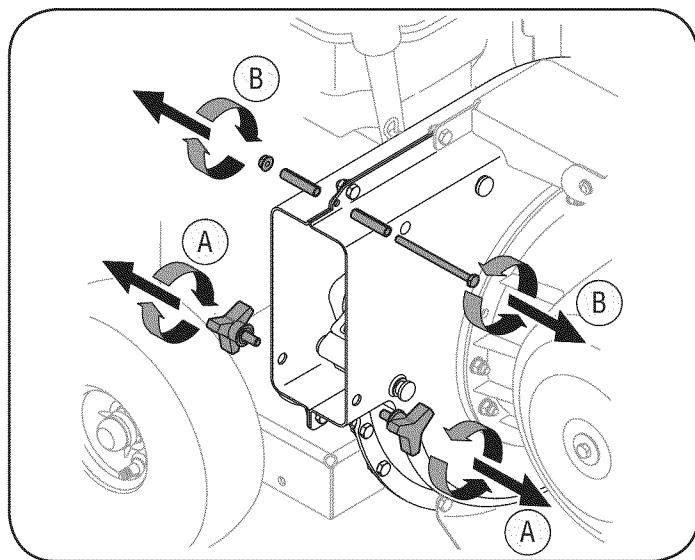

Figure 3
1. A. Remove the wing knobs from each side of the lower impeller housing. See Figure 3.